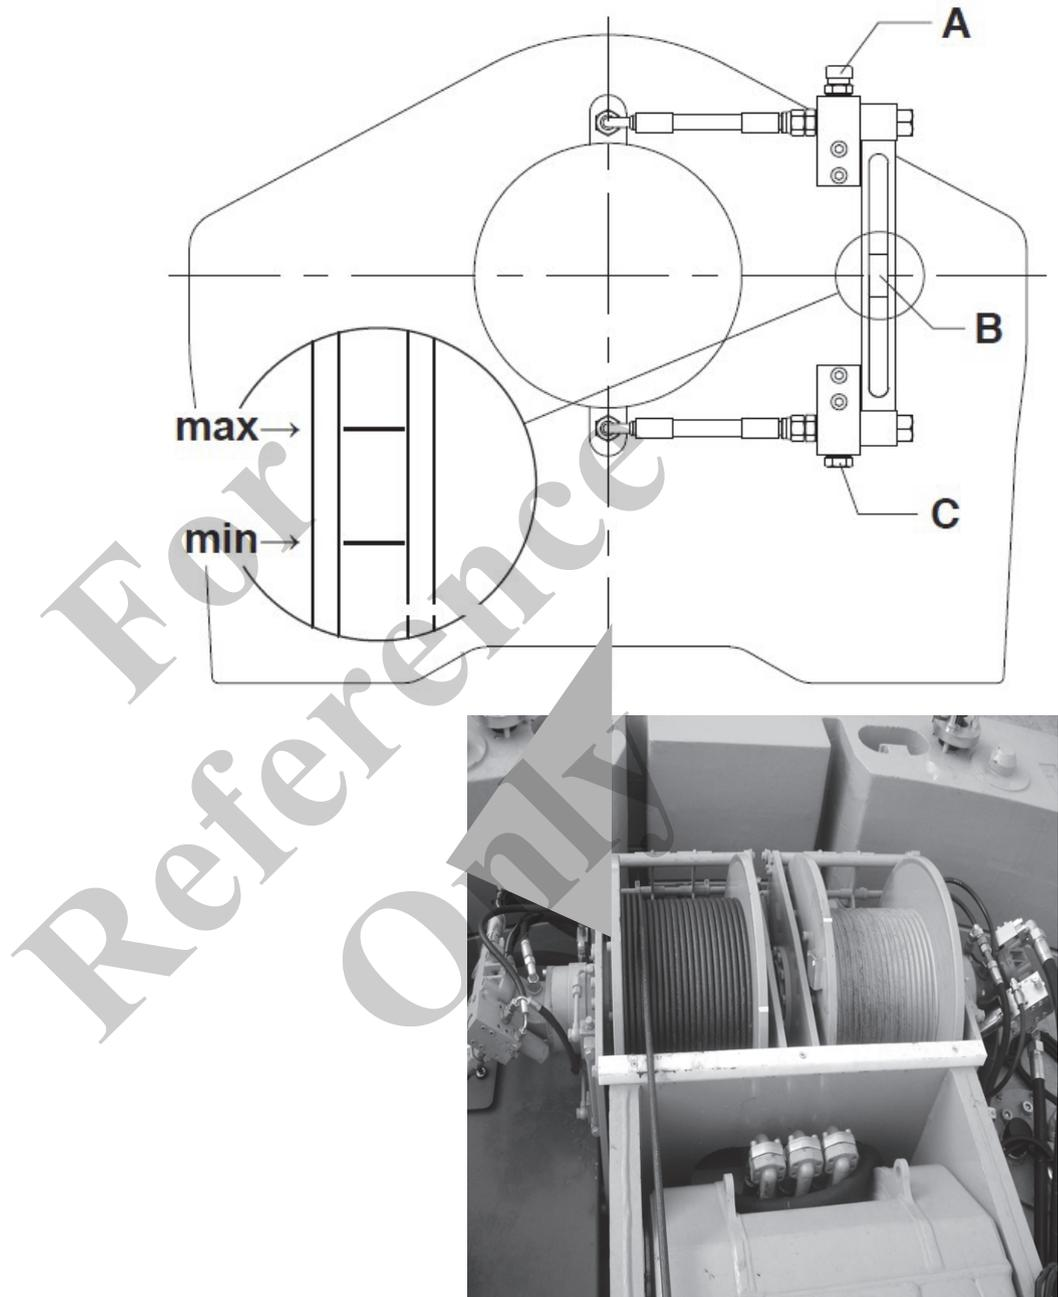

Fig. 216 Winch
3	Check the oil level on the oil level indicator (B) in Fig. 216. The oil level must be between the lower marking (MIN) and the upper marking (MAX).
5	Remove the closure to the oil filler neck (A) in Fig. 216.
3	Place a collecting vessel under the oil drain (C) in Fig. 216.
4	Remove the oil drain plug (C) in Fig. 216.
7	Reinstall the oil drain plug (C) in Fig. 216.
8	Remove the closure to the oil filler neck (A) in Fig. 216.
10	Replace the oil filler neck closure (A) in Fig. 216.